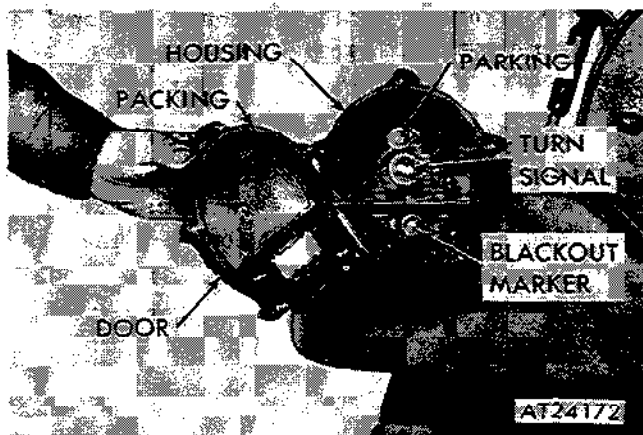

Figure 2-205. Removing or installing front lamp bulbs (M151A2, M825, and M718A1 vehicles).
(2) Remove door (fig. 2-205) and preformed packing from housing. Press bulb in and turn counterclockwise.
(3) Install another bulb. Properly position preformed packing and door to housing and secure door by tightening five screws.